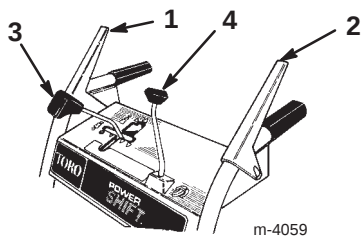

Figure 13
- **Auger/Impeller Drive Control Lever** (Fig. 13)—To engage both the auger and impeller, press the lever against the right handgrip. To disengage, release the lever.
- **Traction Control Lever** (Fig. 13)—To engage the traction (wheel drive), press the lever against the left handgrip. To stop the traction, release the lever.
- **Speed Shift Control** (Fig. 13)—This control has a neutral position, four forward speeds, and two reverse speeds. It also controls the power shifting of the wheels. To select a speed, move the shift control to the desired position.
- **Discharge Chute Control** (Fig. 13)—Rotate the discharge chute control clockwise to move the discharge chute to the right; counterclockwise to move the chute to the left.
3. Release the auger/impeller drive control lever and the traction control lever (Fig. 13).